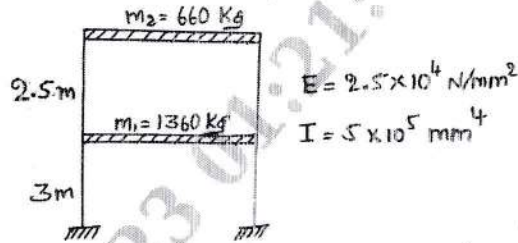

Fig.Q5
- 5 Determine the natural frequency and mode shapes for the structure shown in Fig.Q5.